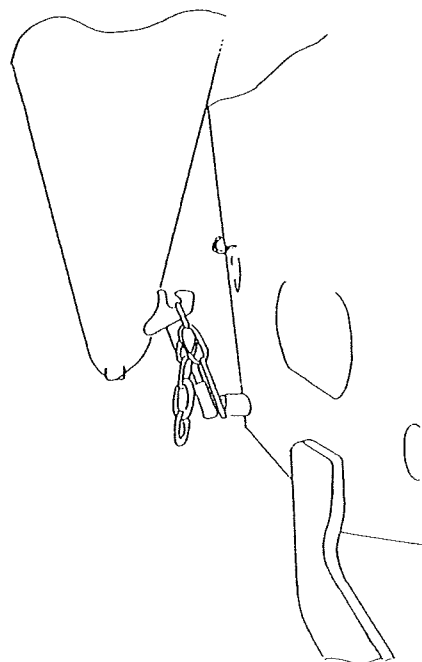

Fig 9.2
- B. Operate the share control (switch D on the drivers switch control box, see section 4) to raise the floating chassis, fit the transport chains onto the hooks provided on the main chassis. Operate the share control again to lower the floating chassis so that its weight is supported onto the transport chains. (Fig 9.2).